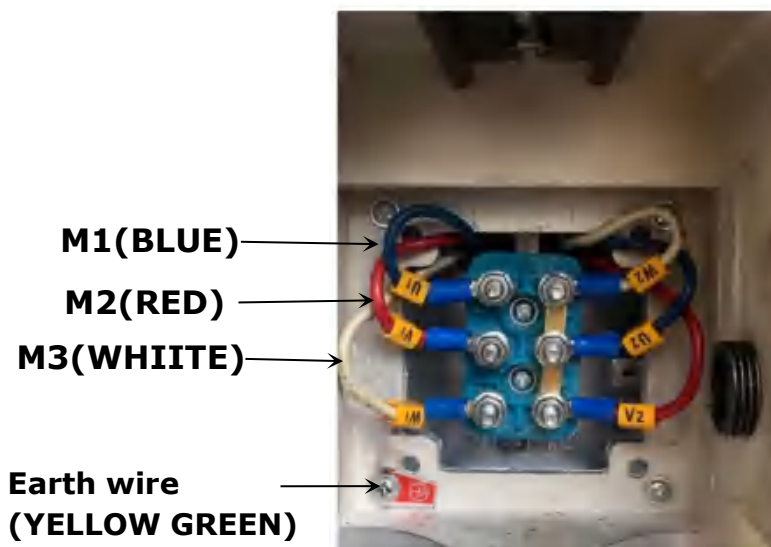

Fig. 32
2.2 380V Wire connection diagram of hydraulic motor (See Fig. 32)